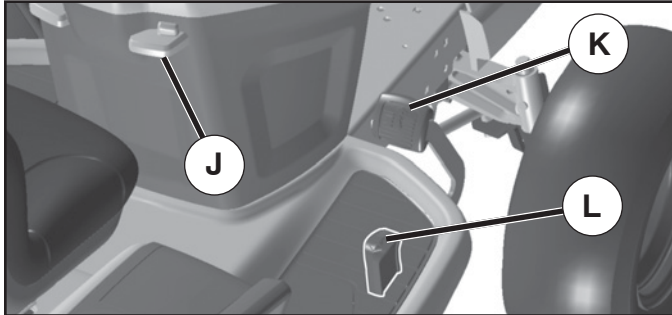

Fig. 10
TO MOVE FORWARD AND BACKWARD (See Fig. 10)
- Slowly depress forward (K) or reverse (L) drive pedal to begin movement. Ground speed increases the further down the pedal is depressed.
TO USE CRUISE CONTROL (J) (See Fig. 10)